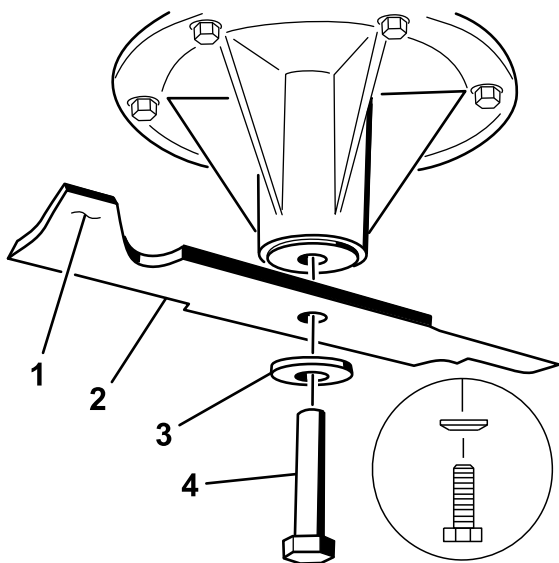

Figure 80
2. Install the blade onto the spindle shaft (Figure 80).
3. Install the curved washer and blade bolt (Figure 80).
**Note:** The curved washer cone must be installed toward the bolt head (Figure 80).